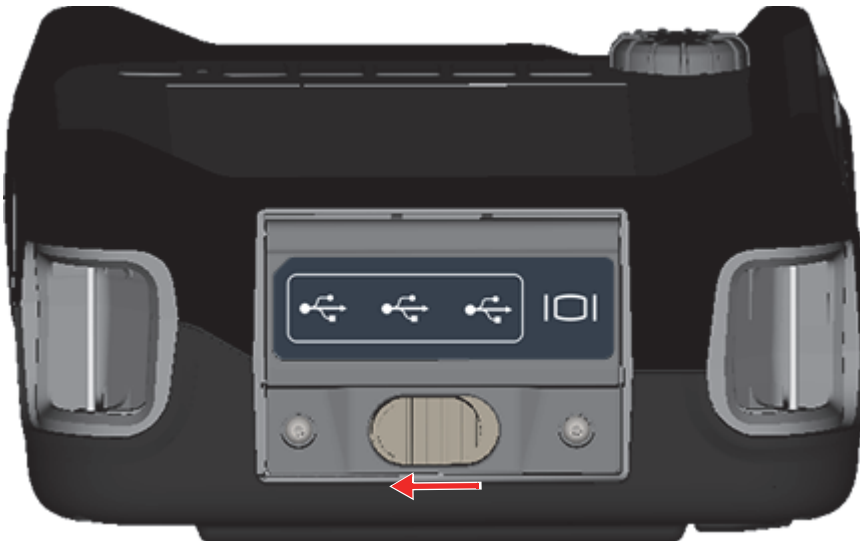

Figure 3-7 Data port cover release latch
1. With the 72DL PLUS gauge in the orientation shown in Figure 3-7 on page 44, press the cover release latch and slide it towards the left to unlock the data port cover.